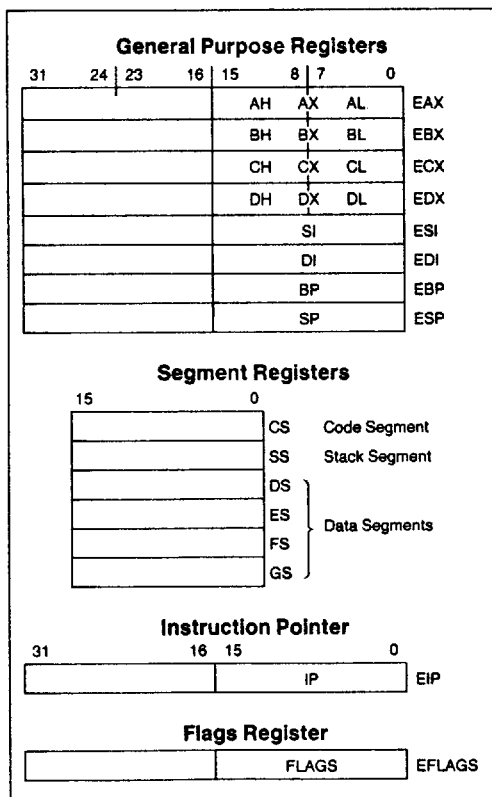

Figure 2.1. Base Architecture Registers
Figure 2.1 shows the Intel486 Microprocessor base architecture registers. The contents of these registers are task-specific and are automatically loaded with a new context upon a task switch operation.
The eight 32-bit general purpose registers are shown in Figure 2.1. These registers hold data or address quantities. The general purpose registers can support data operands of 1, 8, 16 and 32 bits, and bit fields of 1 to 32 bits. Address operands of 16 and 32 bits are supported. The 32-bit registers are named EAX, EBX, ECX, EDX, ESI, EDI, EBP and ESP.
The instruction pointer, shown in Figure 2.1, is a 32-bit register named EIP. EIP holds the offset of the next instruction to be executed. The offset is always relative to the base of the code segment (CS). The lower 16 bits (bits 0–15) of the EIP contain the 16-bit instruction pointer named IP, which is used for 16-bit addressing.